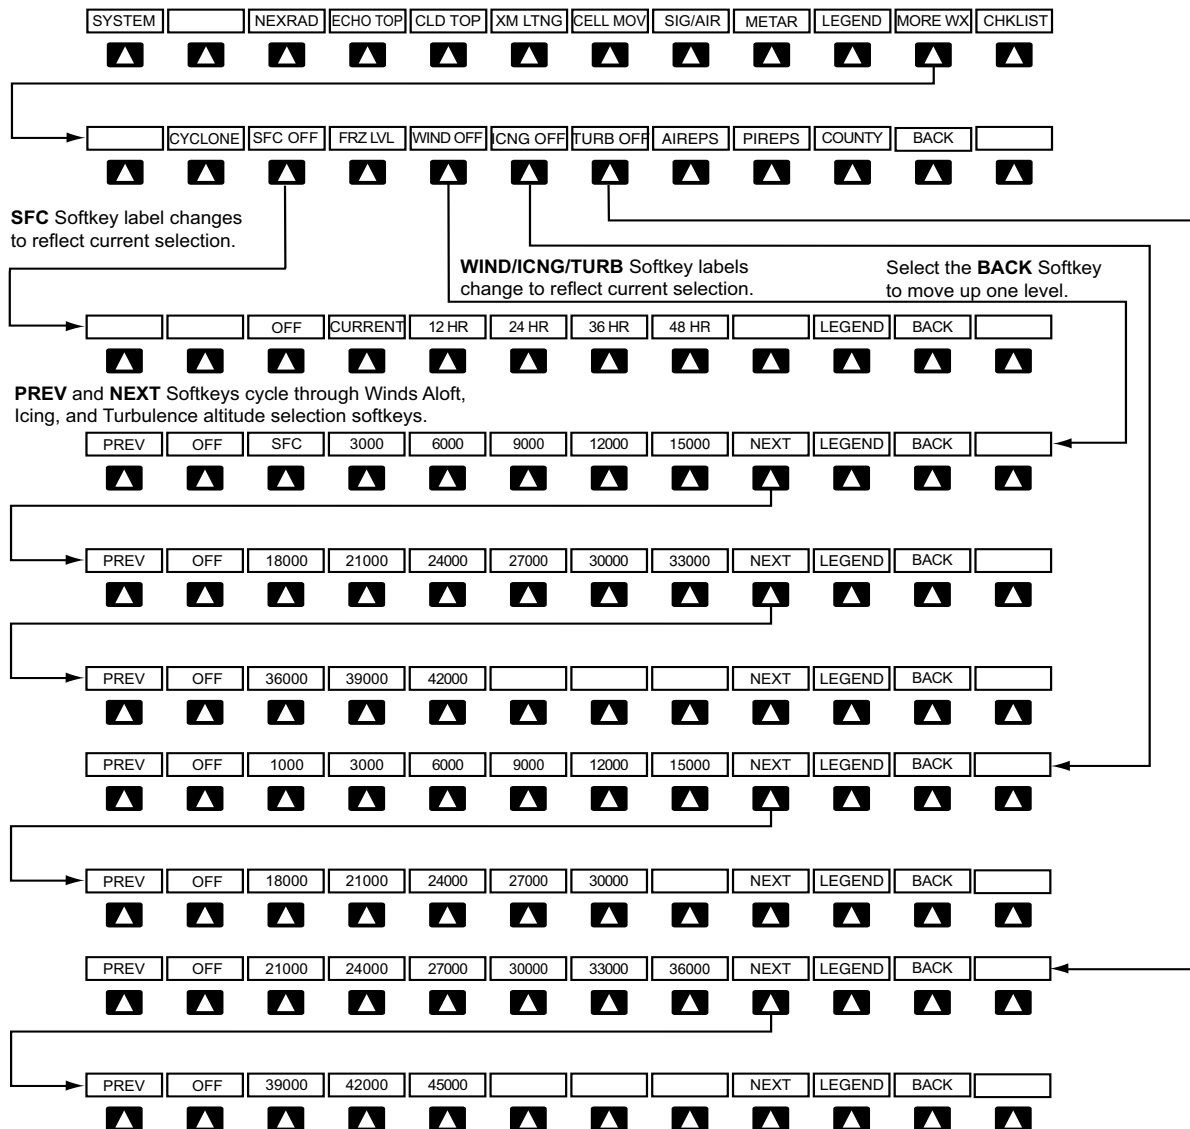

Figure 6-3 Weather Data Link (XM) Page Weather Product Softkeys
Softkeys control the display of weather information on most MFD pages and the PFD Inset Map (Figure 6-3 shows the weather product softkeys for the Weather Data Link (XM) Page). When a weather product is selected for display, the corresponding softkey label changes to gray to indicate the product is enabled.